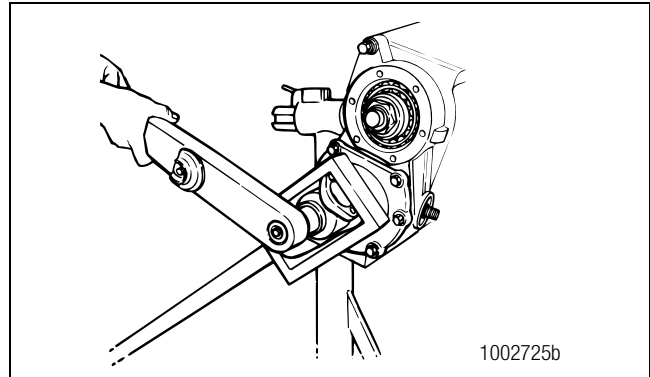

Figure 3.21
4. Use the correct tool to hold the input yoke or flange. Loosen, but do not remove, the nut that fastens the yoke or flange to the input shaft. Figure 3.21.